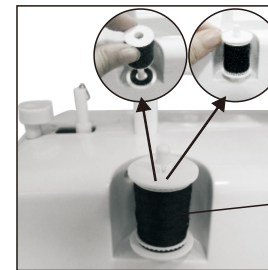

Fig.11
1. Put a spool of thread on spool pin (Fig.11)